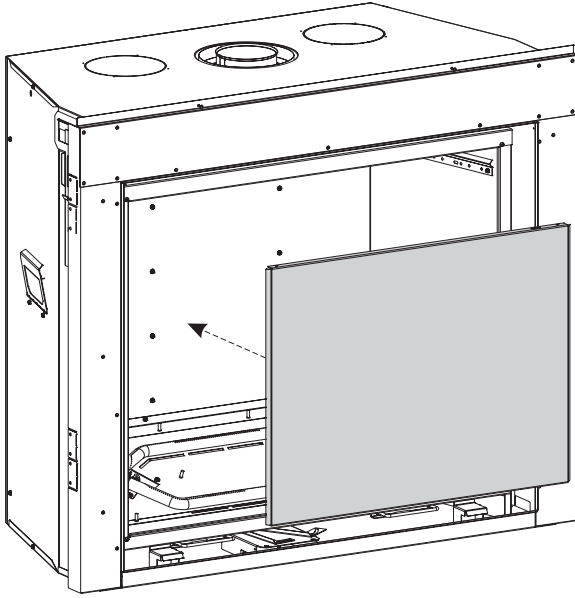

Figure 2
1. Place LINER REAR on the back of the firebox and hold with one hand. See Figure 2.